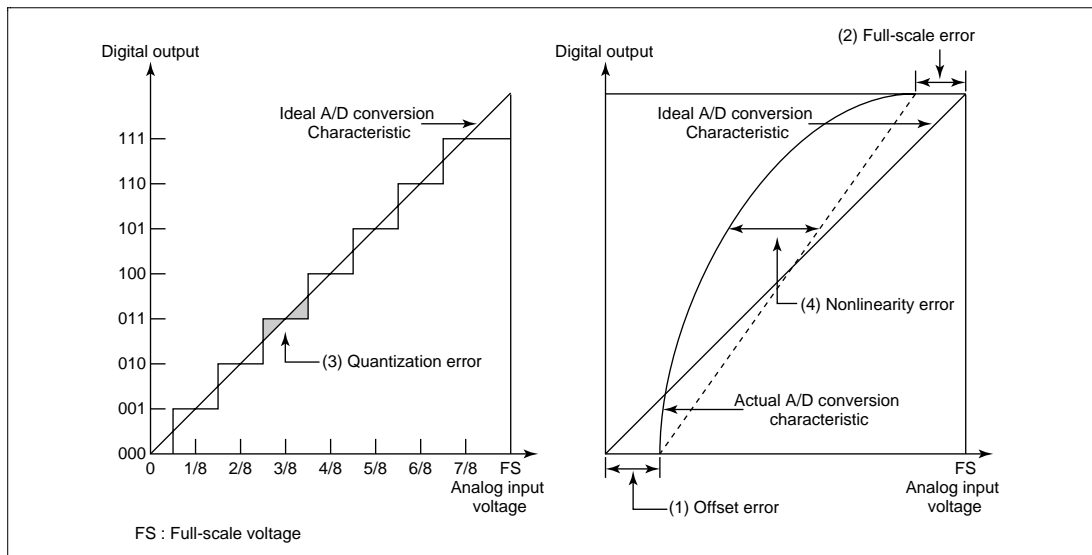

Figure 16.7 A/D Conversion Precision Definitions
- (1) Offset error
- (2) Full-scale error
- (3) Quantization error
- (4) Nonlinearity error
The above four kinds of error are described below with reference to figure 16.7. For the sake of clarity, this figure shows 3-bit medium-speed A/D conversion rather than 10-bit medium-speed A/D conversion. Offset error (see figure 16.7 (1)) is the deviation between the actual A/D conversion characteristic and the ideal A/D conversion characteristic when the digital output value changes from the minimum value (zero voltage) of 0000000000 (000 in the figure) to 0000000001 (001 in the figure). Full-scale error (see figure 16.7 (2)) is the deviation between the actual A/D conversion characteristic and the ideal A/D conversion characteristic when the digital output value changes from 111111110 (110 in the figure) to the maximum value (full-scale voltage) of 111111111 (111 in the figure). Quantization error is the deviation inherent in the medium-speed A/D converter, given by $1/2$ LSB (see figure 16.7 (3)). Nonlinearity error is the deviation between the actual A/D conversion characteristic and the ideal A/D conversion characteristic from zero voltage to full-scale voltage (see figure 16.7 (4)). This does not include offset error, full-scale error, and quantization error.